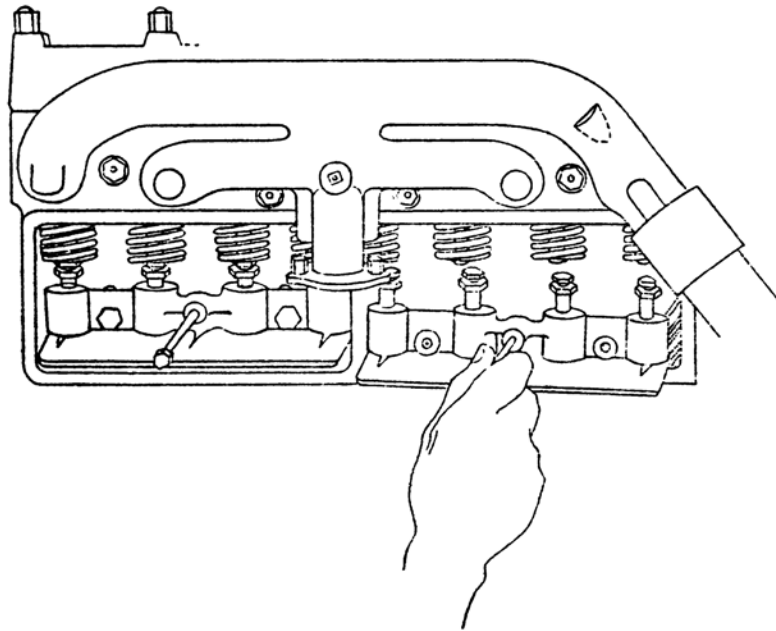

Fig. 7—Removing Valve Tappet Guide
These can be removed as an assembly, as shown in Fig. 7 by removing two (2) 3/8"-16 x 1-9/16" hexagon head cap screws which screw into bosses on cylinder.